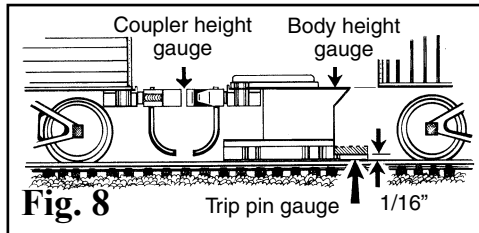
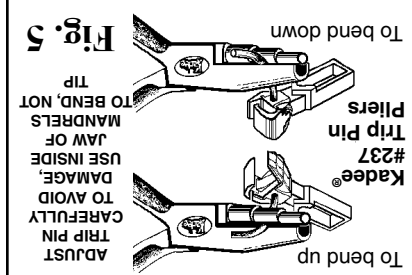

Fig. 8
Fig. 5
**10. Coupler Height:** Set height gauge on track and roll car with a coupler up to the gauge (Fig. 8). The coupler should be the same height as the coupler on the height gauge. If too low, or too high make adjustments as described above.
**11. Check Coupler Trip Pin height** by setting car on track and rolling car up to gauge. Trip Pin should just skim over top of the gauge. If Trip Pin is too high or too low, adjust as shown in Fig. 5. The standard S-Scale coupler trip pin clearance is 1/16" above rail top as shown in Fig. 8.
9. Set the height gauge on track and roll car without coupler up to the body height gauge (Fig. 8). The car underbody should just clear the top of the gauge. If underbody is too high, add shim(s) of appropriate thickness between coupler gear box and the mounting surface to lower the coupler. If too low, add shim(s) between truck and body bolster or cut out a space in the